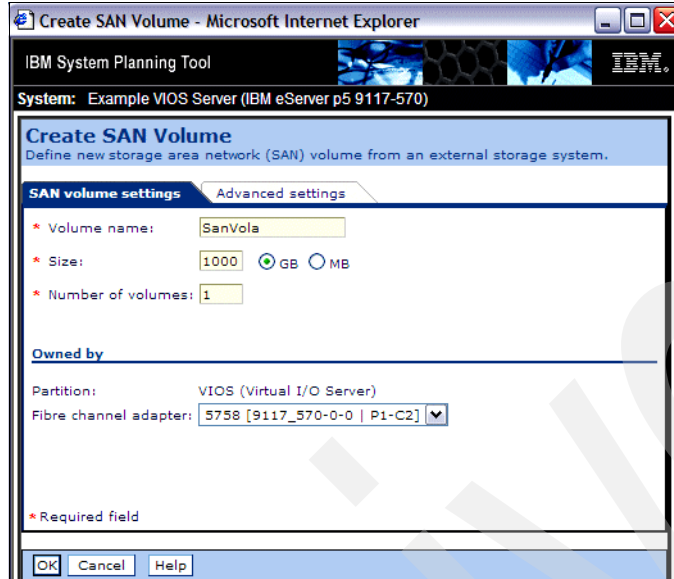

Figure 4-18 Definition of a SAN volume
3. On the window shown in Figure 4-18 you describe the volume characteristic.